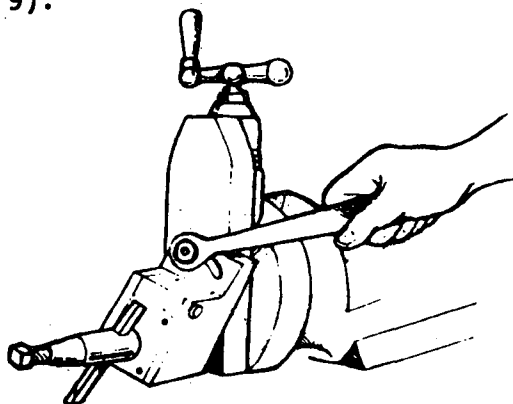

Fig. 9
- d) Tilt the clapper box (Fig. 9).